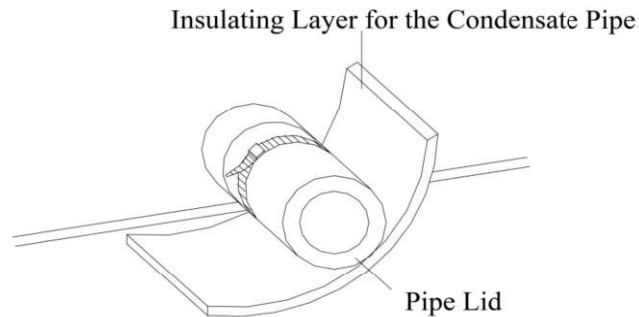

Fig.13 Thermal Insulation of the Condensate Pipe
a. The condensate pipe should keep a inclination angle of $5^{\circ}\sim 10^{\circ}$, which can facilitate the drainage of the condensate water. And the joints of the condensate pipe should be insulated by the insulation material to prevent condensing(see Fig.13).